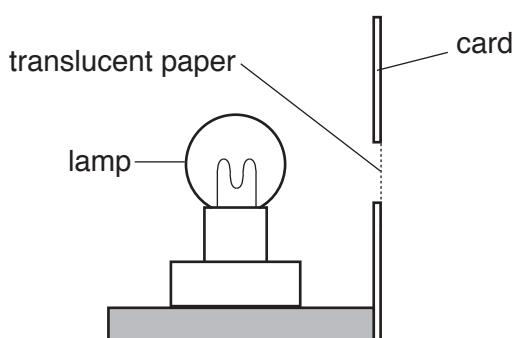

Fig. 3.1
- (ii) Illuminated object with a triangular hole of height 1.5 cm (see Figs. 3.1 and 3.2). The hole is to be covered with thin translucent paper (e.g. tracing paper). See notes 1 and 2.